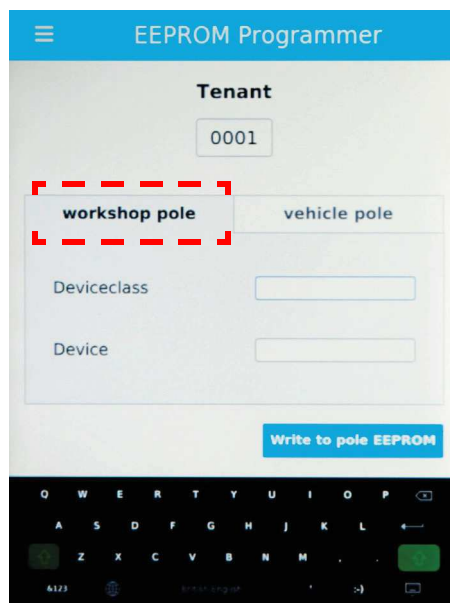

Figure 4-3 BAT 3
Step 4 Choose <workshop pole> in the EEPROM programmer (see in **Figure 4-3**).